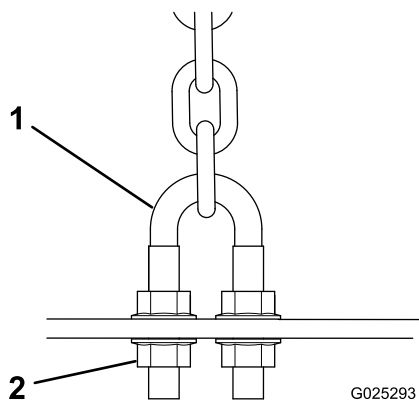
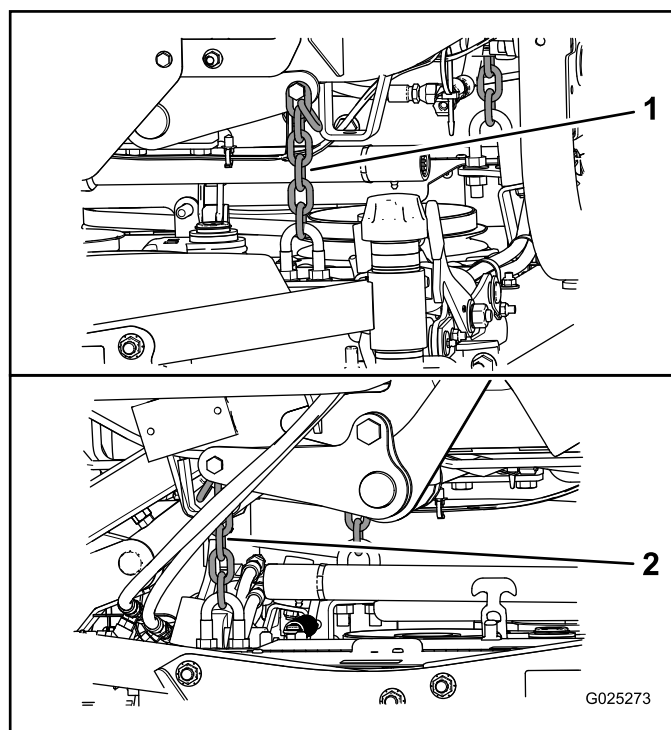

Figure 6
Figure 7
7. Adjust the U-bolt jam nuts (Figure 6) securing the rear deck chains (Figure 7) to the mower deck to raise the rear of the mower so that the blade pitch is set to 8 to 11 mm (5/16 to 7/16 inch).
8. Adjust the jam nuts securing the deck chains to the mower deck until the mower deck is level (Figure 7).